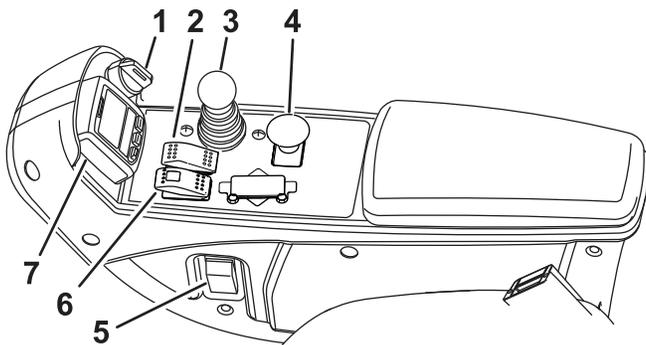

Figure 39
**Note:** In emergency braking situations, remove your foot from the traction pedal and then pivot the parking-brake switch forward (Figure 39).
The key switch (Figure 39) has 3 positions: OFF, ON/PREHEAT, and START.
To engage the parking brake, (Figure 39) pivot the switch forward on the console. The red light on the switch turns on when it is set. To release the parking brake, pivot the switch backward.
This lever (Figure 39) raises and lowers the cutting units.
The InfoCenter LCD display shows information about your machine, such as the operating status, various diagnostics, and other information about the machine (Figure 39).
Pivot the switch upward to turn on the headlights (Figure 39).